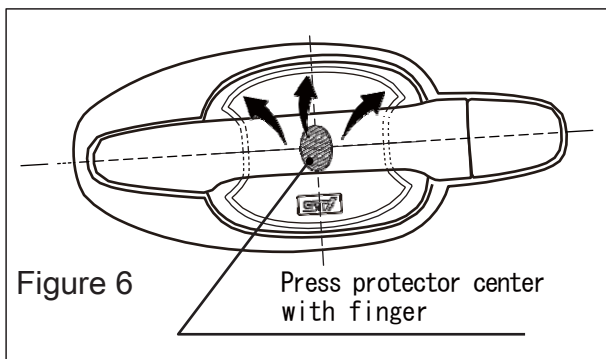

Figure 6
- 3) Position the part within the door handle cup press the central part with a finger and adjust its balance relative to the up, down, front and back of the panel's cone shape and the door handle angle while holding it against the panel. (Figure 6)